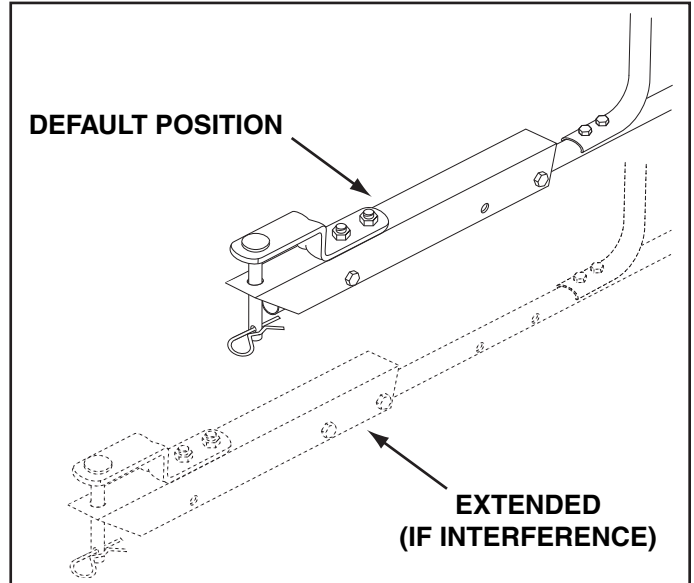

FIGURE 11
18. For most vehicles, you can keep the assembled hitch extension bracket in its default position shown in figure 11. Attach the spreader hitch to your vehicle hitch. Check for interference with the spreader directly behind and out to both sides of the vehicle. Lift the spreader at each position to make sure there is no interference with the spreader's flow control. If there is interference with the rear of the vehicle, assemble the hitch extension bracket as shown at the **bottom** of figure 11. **Tighten** the bolts and nuts when finished.